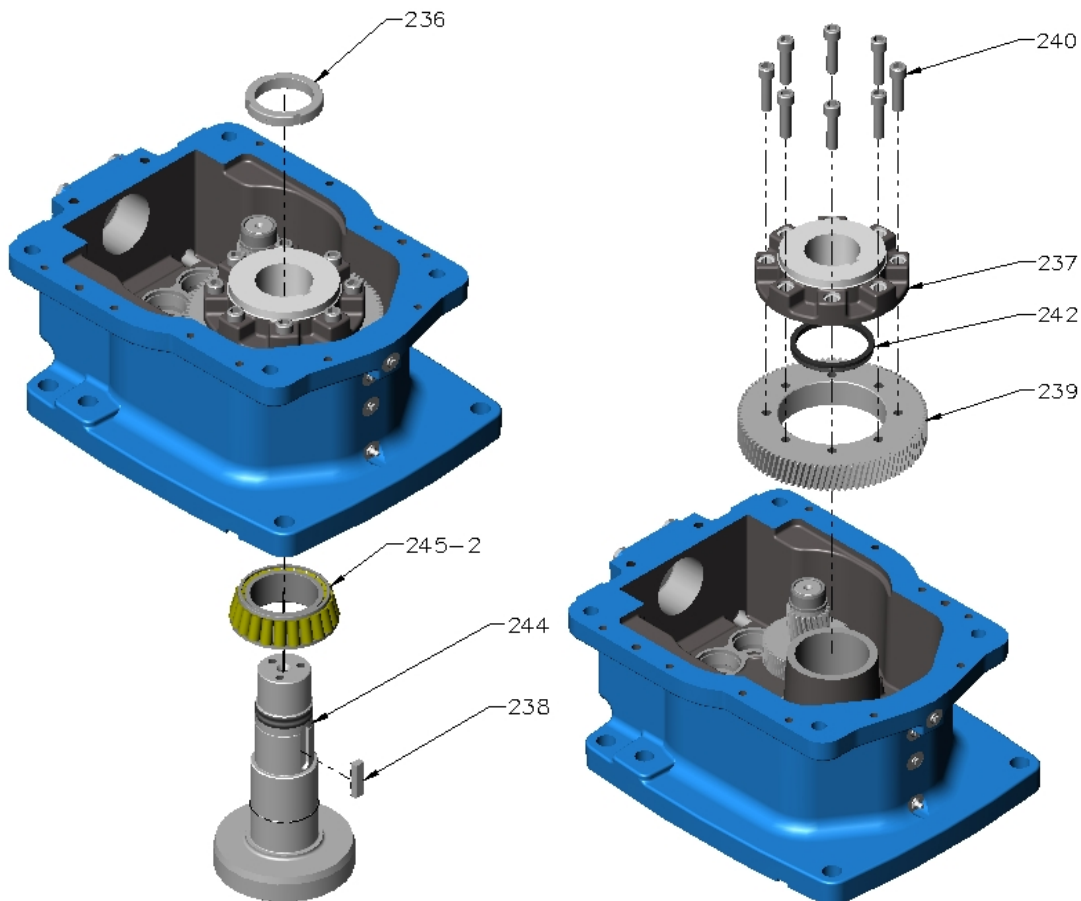

Figure 10 – Output Shaft
- L. At output shaft [244], remove following items (refer Figure 10):
- M. Output shaft [244] disassembly (refer Figure 10).
- (1) Use a bearing puller to remove bearing cone [245-2] off output shaft [244]. Or if necessary, do following steps: